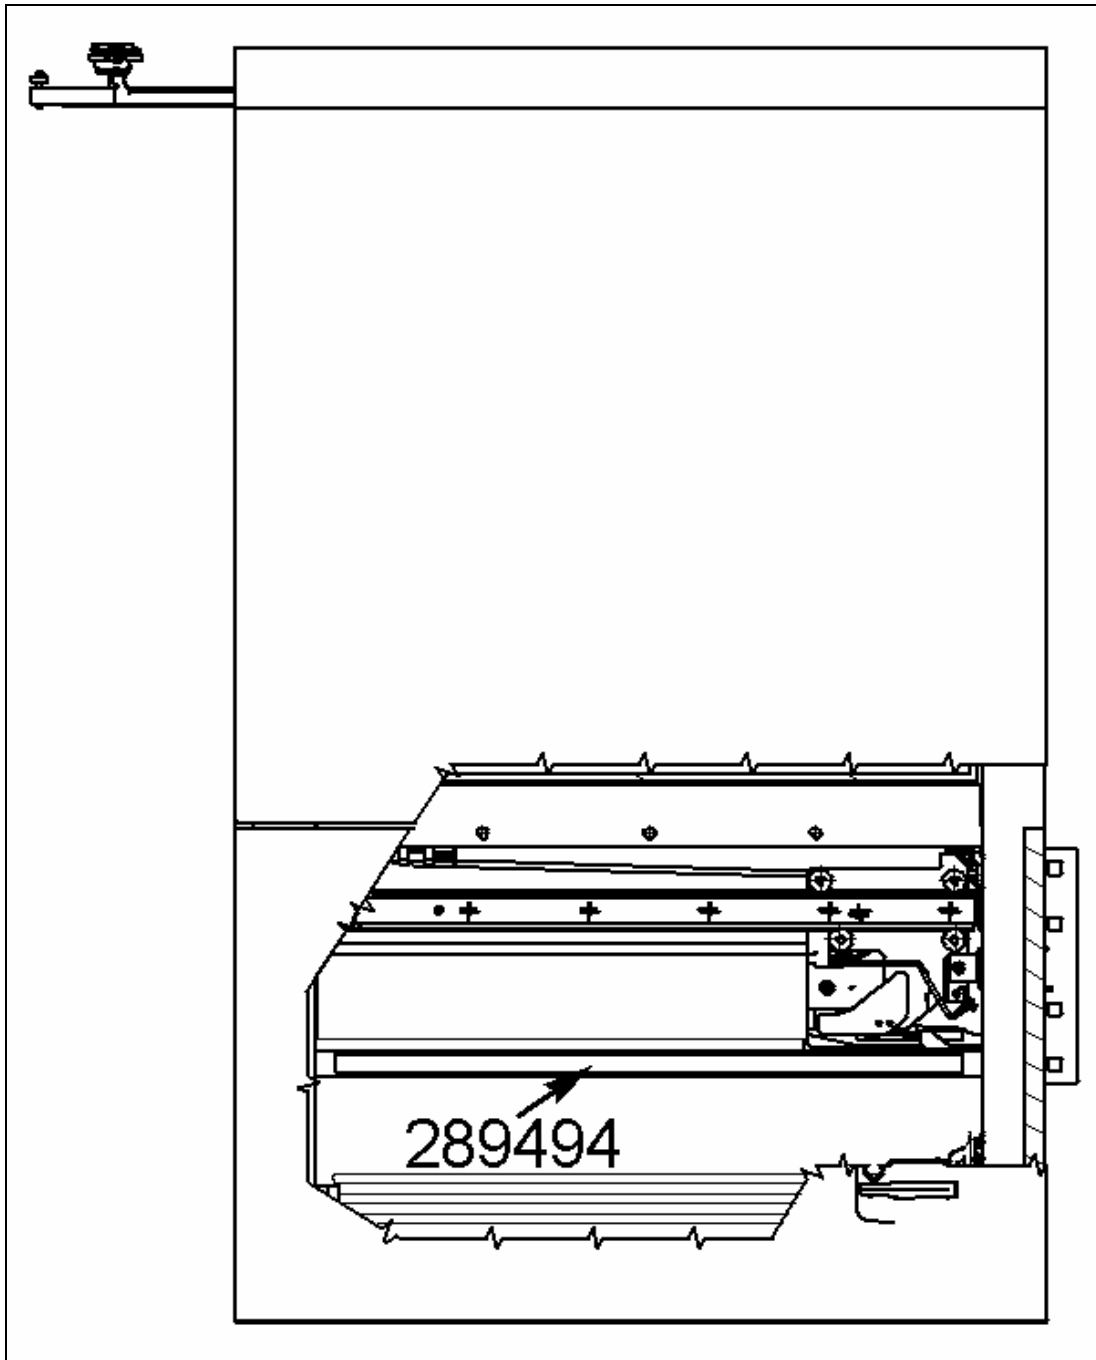

FIGURE 1
- 2) Affix the air ducting assembly insulating part (289494) onto the air ducting assembly (329611) (Refer to figure 1).